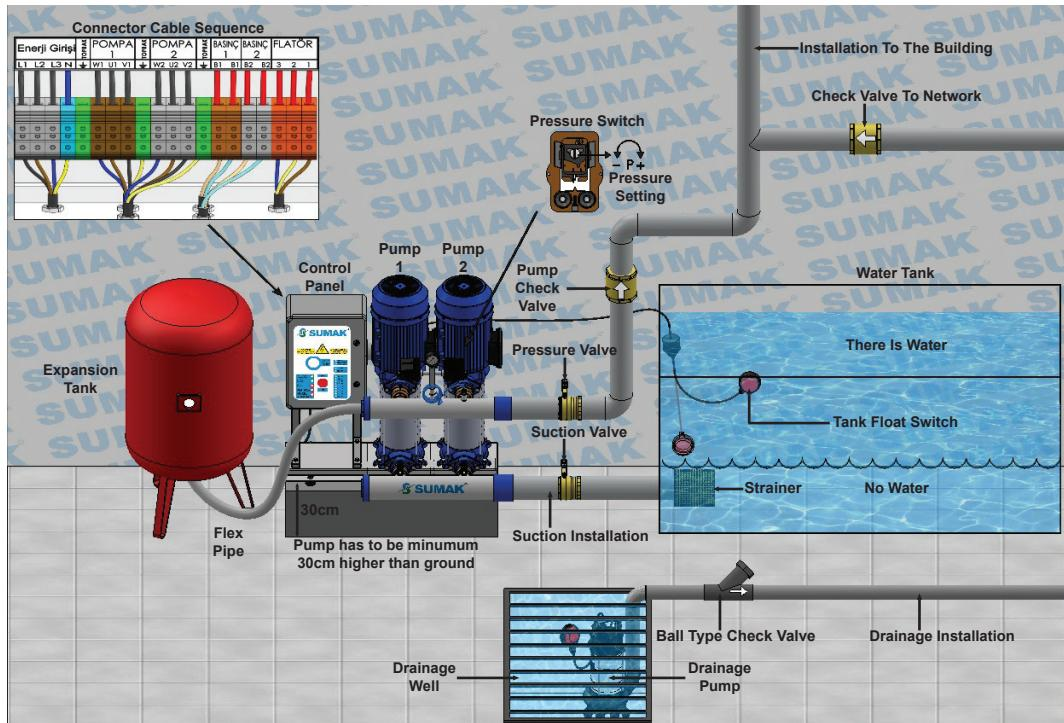

Figure 1
- 7- Assamble the pump according to Figure 1 on Page 7.
- 29- Please check Figure 1 in Page 7 for usage of pump assembly information while mounting, Figure 3 in Page 15 for electric connection, Figure 4 in Page 44 for life security warnings.